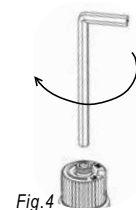

Fig. 4
- 13) Using the Allen wrench as shown in Fig.4, rotate the screw clockwise until snug, do not overtighten.